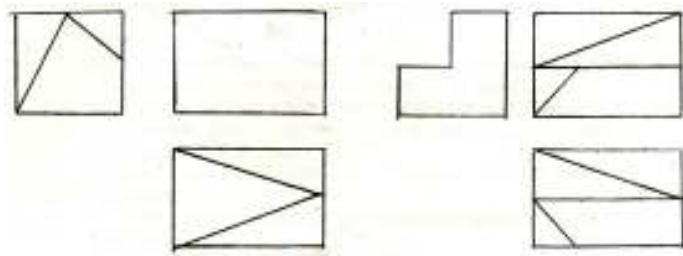

Fig. 3: [Q-4(a)]
- Q.4** (a) Draw missing lines, full or dotted, in the orthographic views of two objects, shown in Fig.3 and indicate them by the letters M.L. Support your answer by freehand sketches of the isometric views of the objects, without which, no credit will be given for the answer. 07